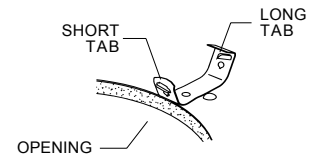

FIG. 2
1. Turn the short tab towards the opening. (Fig. 2)
1. Insert the mounting bars into the proper openings on the short side or the long side of the mounting frame. (Fig.2)
Note-2: To lock more securely into place fold the locking tabs. (Fig.2)